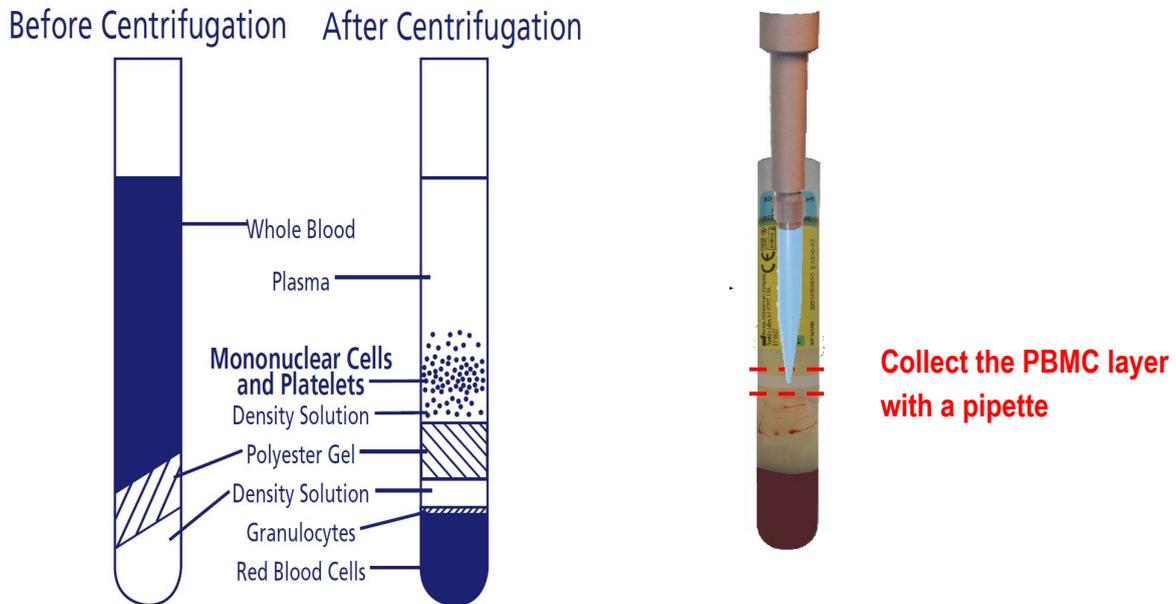

Fig. 1 | Position of the PBMCs after centrifugation (Source: Manual BD Vacutainer® CPT™)
3. After the centrifugation, the PBMCs are concentrated in a whitish layer just beneath the plasma layer (see Fig. 1).